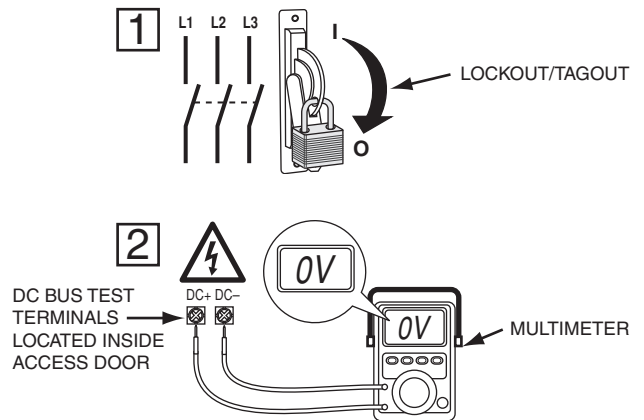

Fig. 3 — Check DC Bus Terminals
2. Check to be sure that the voltage between DC+ and DC- and from each DC terminal to the chassis is zero before proceeding. See Fig. 3.